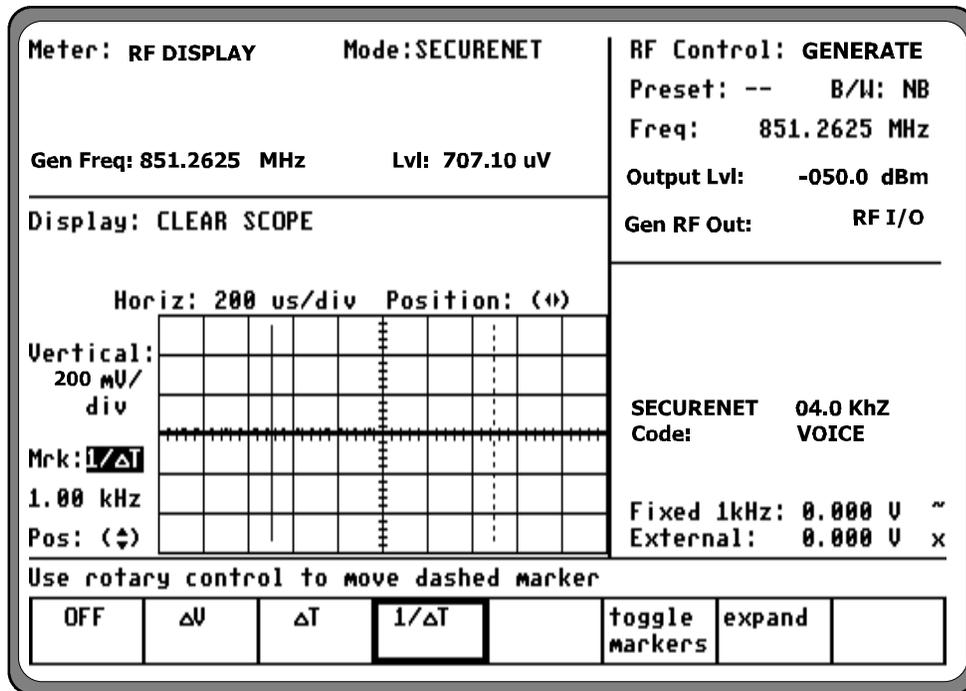

Figure 14-8. SECURENET CLEAR SCOPE Display of Output Modulation
- Place cursor in the "Display:" field and press CLEAR SCOPE softkey. The CLEAR SCOPE screen should appear similar to figure 14-8.